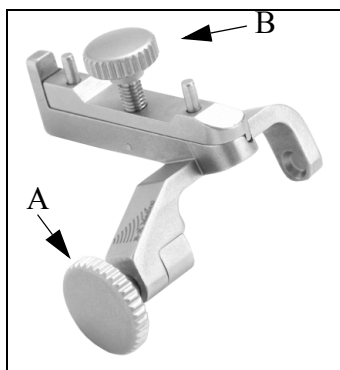

Figure 3. Puncture attachment UA 1250
The puncture attachment (see Fig. 3) comprises an attachment bracket, an attachment lock screw (item A in Fig. 3), a needle guide, a needle-guide lock screw (item B in Fig. 3) and a variable diameter holder for fine needles (0.6 mm or 24 gauge) and large bore needles (2.4 mm or 13 gauge). The guide channel is angled at 18° to the transducer's image axis.
**Note:** When mounted the attachment lock screw (item A in Fig. 3) should be on the side of the transducer handle opposite to the transducer's control button.
- 2 Fix the attachment bracket in position by tightening the attachment lock screw (item A in Fig. 3). Tighten the screw up to its “locking point”, after which it will not be possible to tighten the screw anymore.
- 4 Using the needle guide locking screw (item B in Fig. 3), adjust the needle guide according to the size of needle to be used.